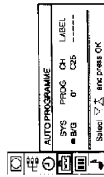

Fig. 4
- 2 Select «Auto Programme» with $\Delta +$ or $\Delta -$ and press OK. The AUTO PROGRAMME menu appears. (See Fig. 4)